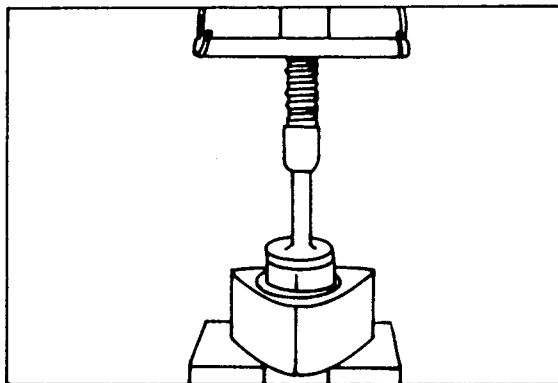

Figure 16
- (2) Bearing installation.
- Press all the way down until the adaptor ring contacts the bearing boss, as shown in Figure 16.